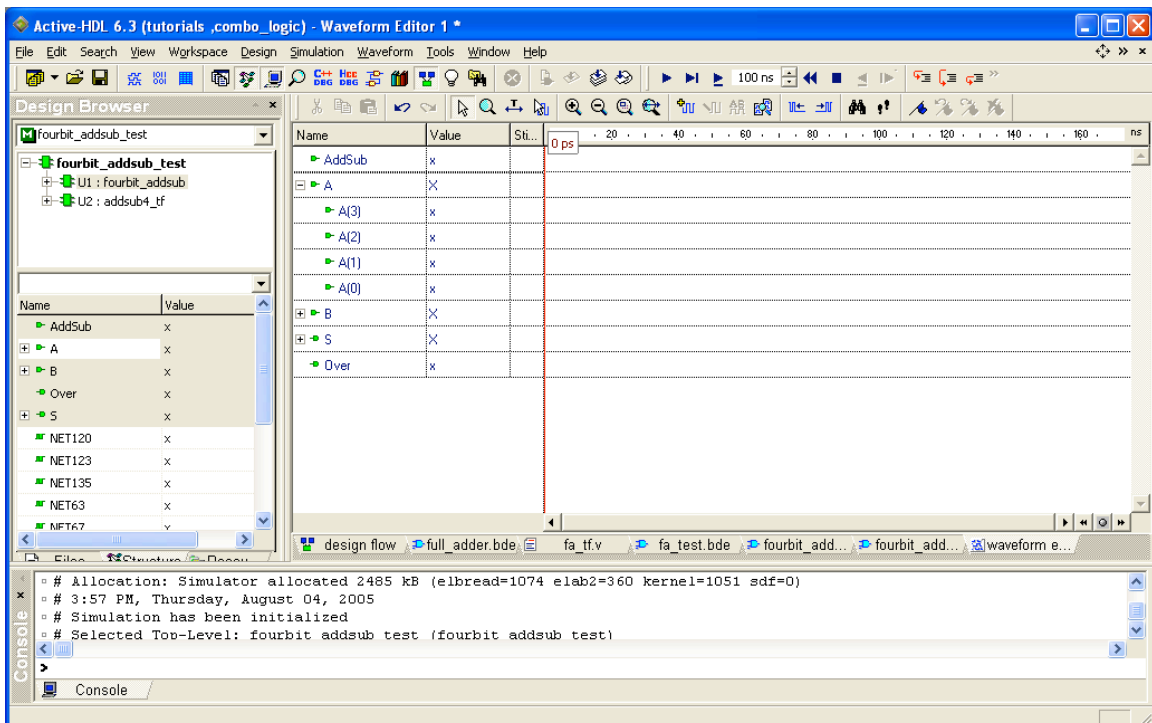

Figure 10
6. Use the same methods you used in Tutorial #1 to add the inputs and outputs from the 4-bit adder/subtractor component. Notice that if you add a multi-bit signal all of its bits will be added to the waveform, or you can add specific bits by expanding the multi-bit signal’s list and add only the desired bit. Your waveform should look something like Figure 10.